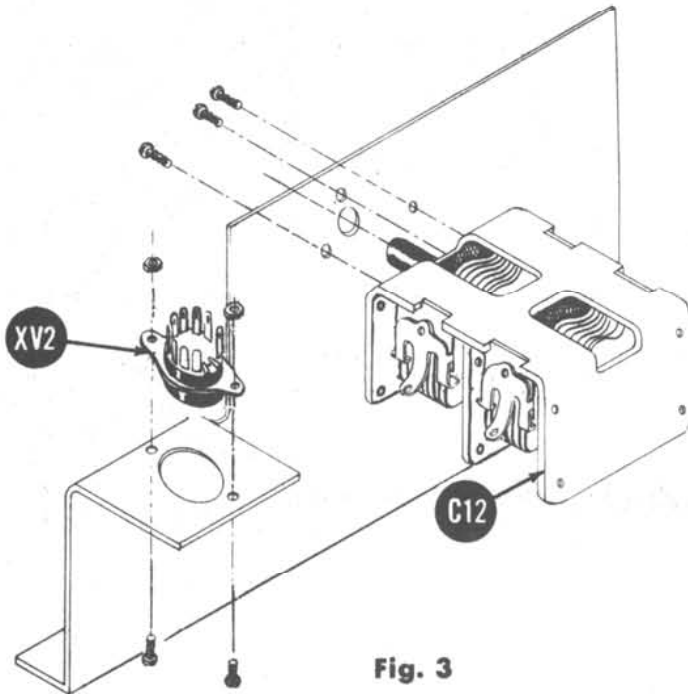

Fig. 3
- () Fig. 3. Mount the tuning capacitor C12 to the sub-assembly bracket using 3 #6-32 X 1/8 screws. To protect C12 during this operation, turn the shaft fully counter-clockwise so that the rotor and stator are fully meshed.
- () Fig. 3. Mount the 9-pin min. socket XV2 on the sub-assembly bracket using 2 #4-40 X 1/4 screws, 2 #4-40 hex nuts, and 2 ground lugs. Orient the socket with the blank (no pin) sector as shown in the drawing.